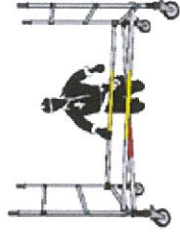

Fig.2
**5.** Check that the scaffold base is square-See Fig. 2.